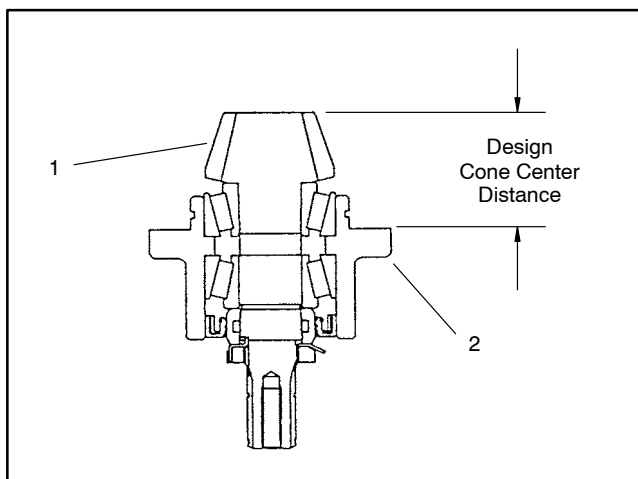

Figure 18
9. Use a depth gauge to measure the distance from the end face of the input shaft/pinion gear to the mating surface of the bearing case. Subtract the "Design Cone Center Distance" from this distance to determine initial shim thickness (Fig. 18).